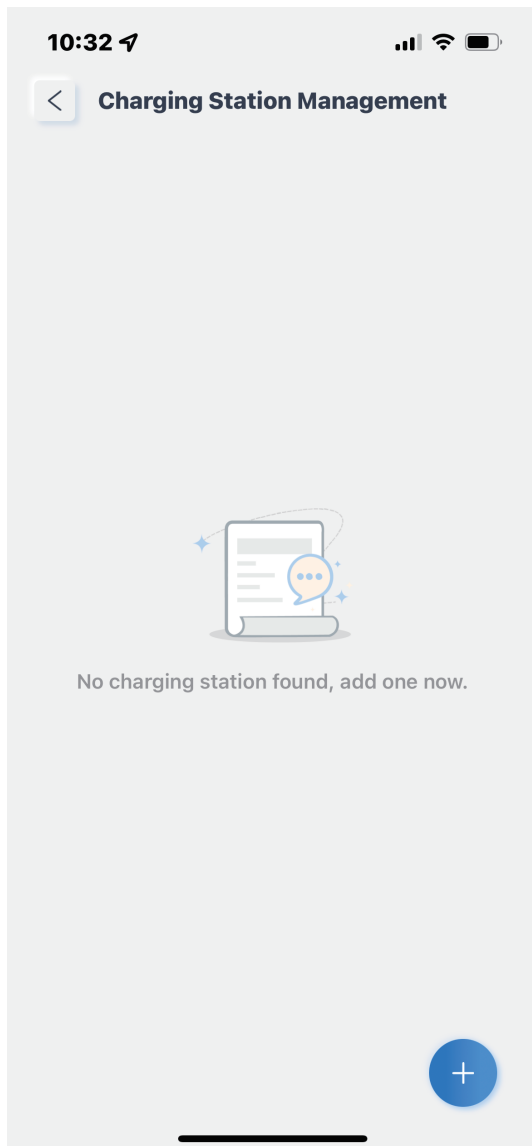

Fig.6.1.4
4. Tap the cross at the bottom right to add your charging station. (See Figure 6.1.4)